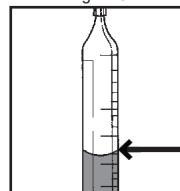

Figure 7
- When the color of the liquid in the ampoule changes to **COLORLESS**, remove the ampoule from the Titrettor. Hold the ampoule, **tip pointed upward**, and read the scale opposite the liquid level (fig. 7). Results are expressed in ppm (mg/Liter) Chloride (Cl-).